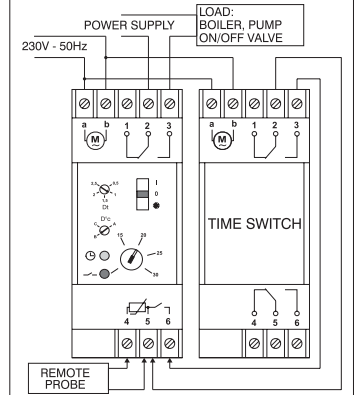

fig.3
- Carry out the electrical connection to the thermostat, terminals 4 and 5 (fig. 3).
In order to obtain a temperature reduction it is necessary to connect the thermostat as indicated in fig.3. The contact to be connected to the time switch or any other control device, must be free from potential. Temperature reduction can be set by means of the regulation trimmer  $\Delta^\circ C$ . The value, which can be set to the three levels A-B-C indicated on the front of the product, is not fixed, but varies depending on the set temperature. See table on the right.